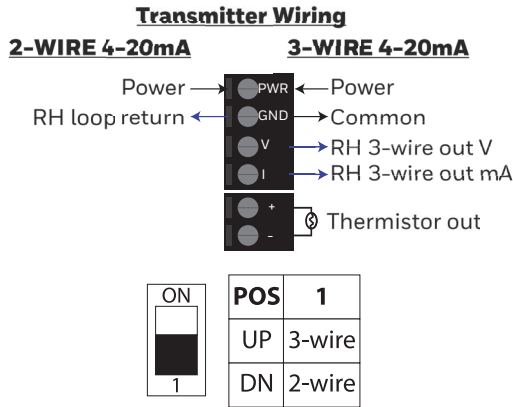

Fig. 2.
2. Wire sensor as shown per Fig. 2.